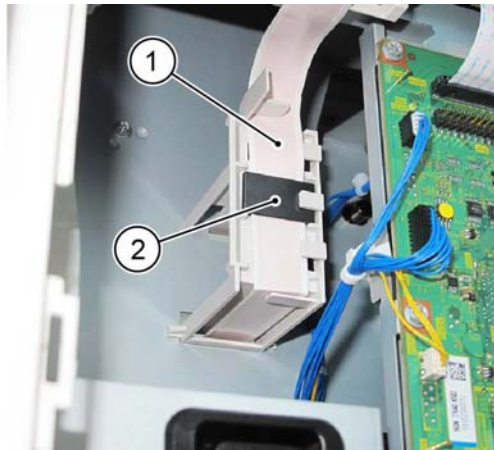

Figure 5 Guide release
6. Release the FFC cable, Figure 5:
- a. Release FFC cable from the FFC guide-R (1).
- b. Remove the ferrite core (2).